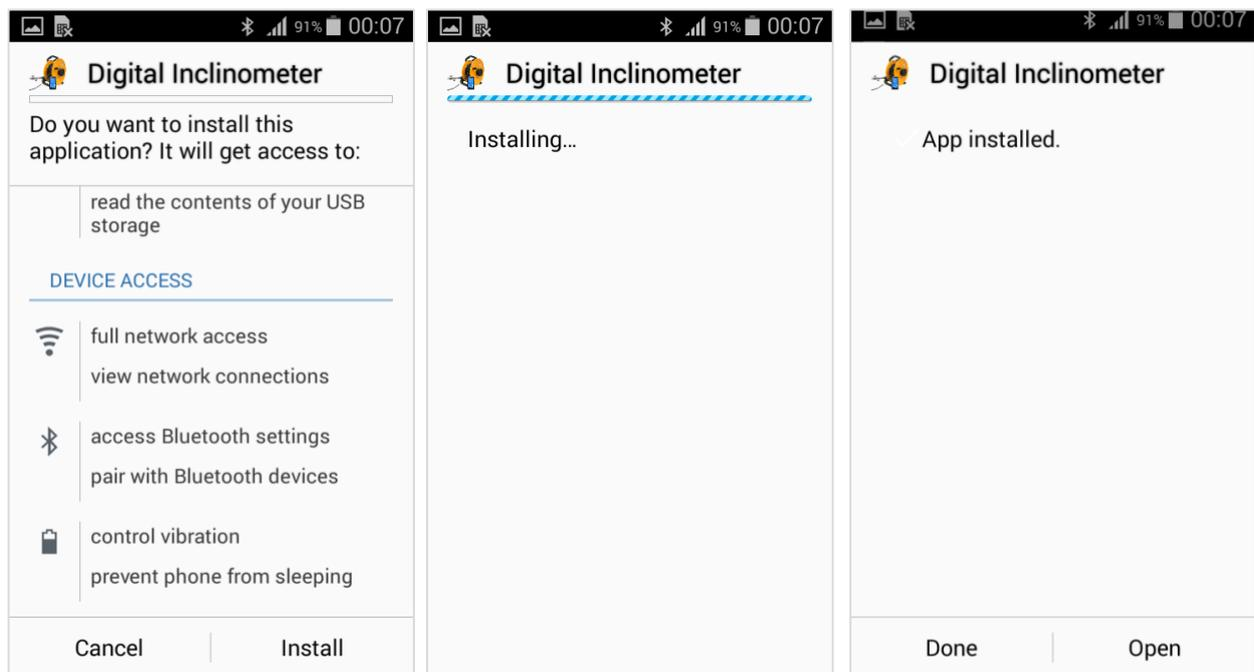

Figure 7-1 Digital Inclinometer Android Application Software Installation
- Go to copied location and tap on EAN-26R1_xx.apk. Tap on install. Refer to Figure 7-1.